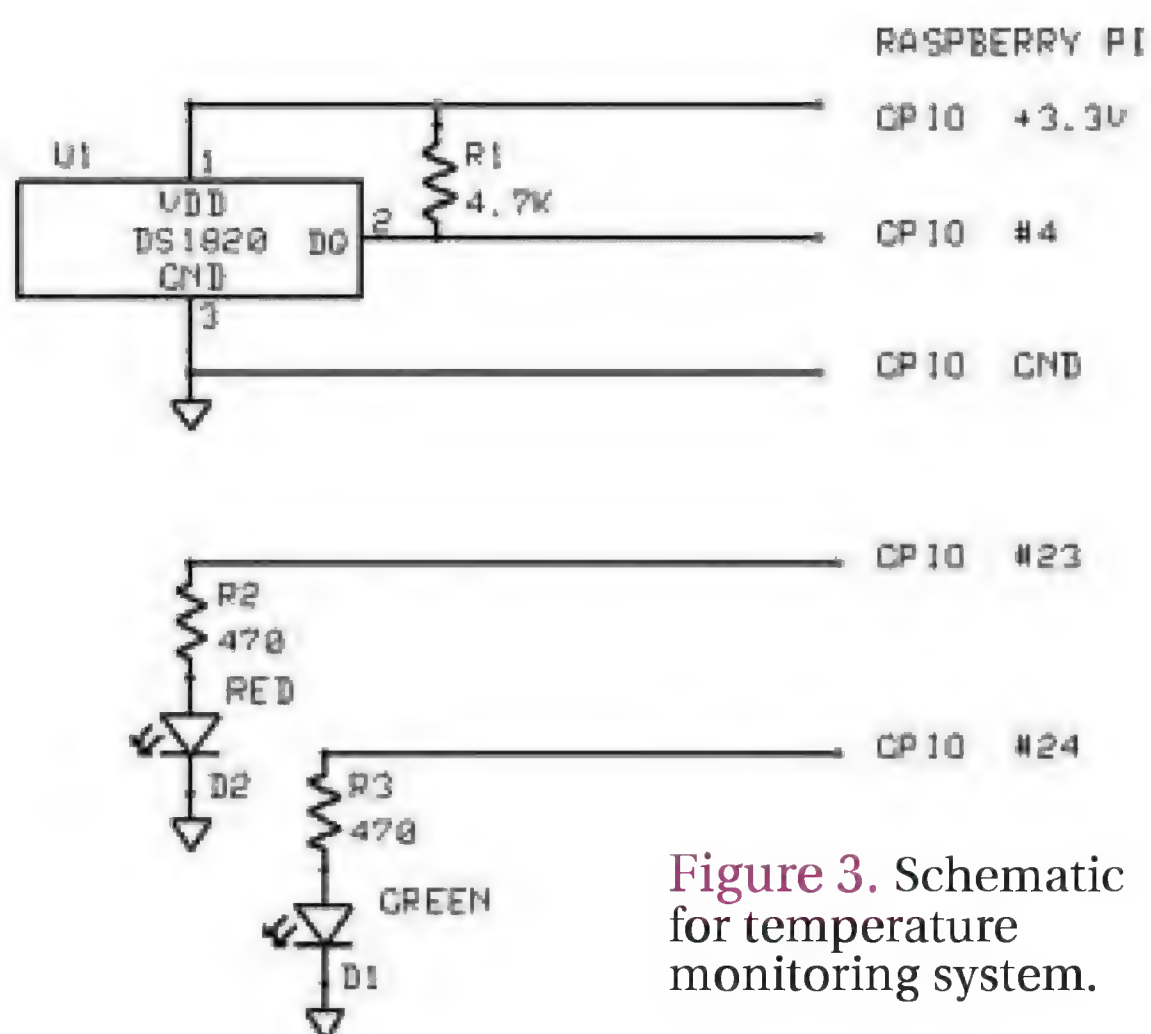
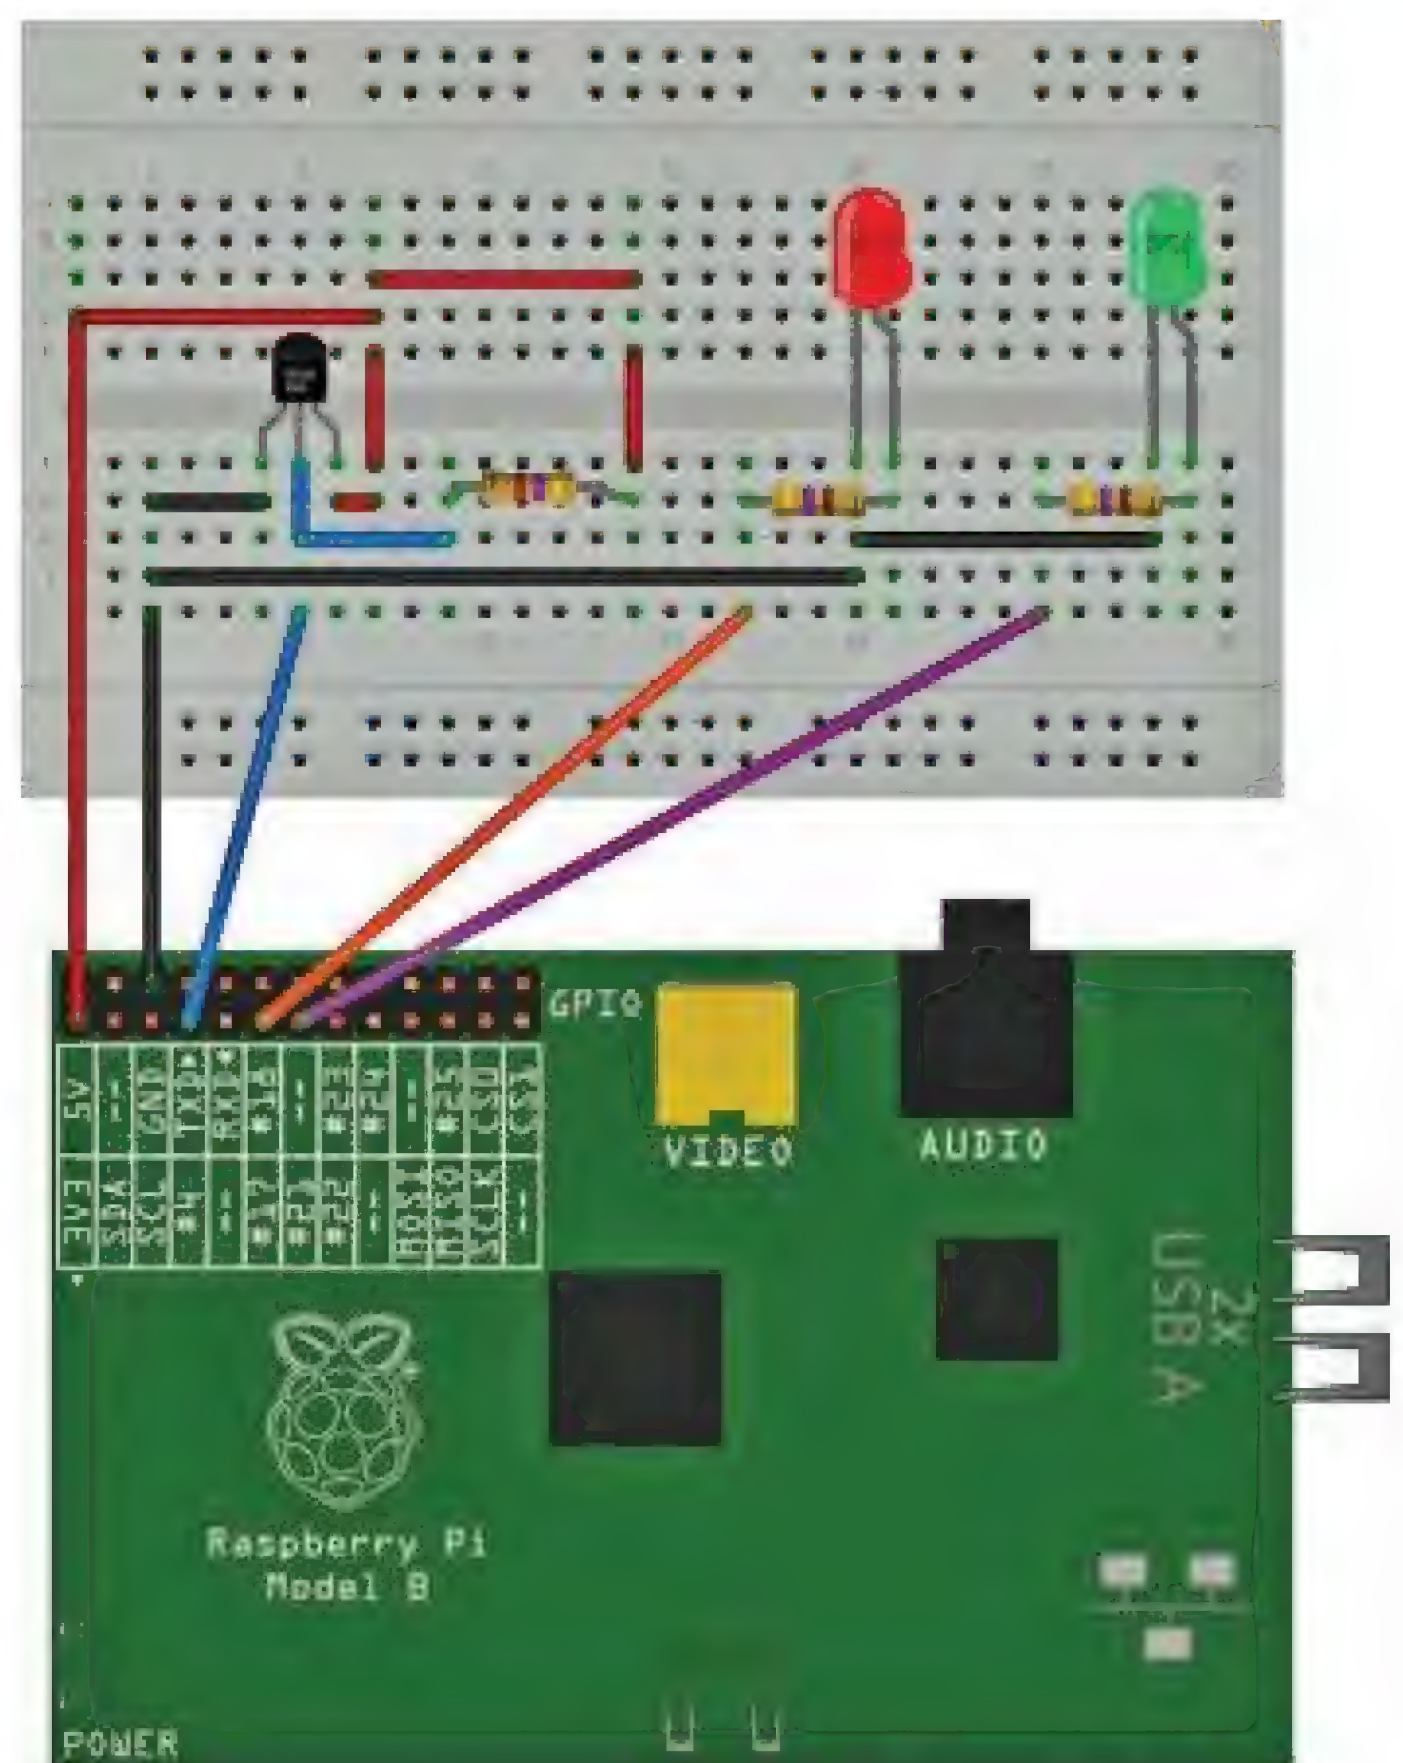

Figure 3. Schematic for temperature monitoring system.
Figure 4. Prototype temperature monitoring system.
input. I developed the voltage doubler shown in **Figure 3** that just about meets the LED light voltage requirements. It uses an LM555 as a standard square wave generator that drives a standard push-pull power N-channel/P-channel MOSFET pair operating as a common source. I used a resistor/diode/capacitor network in series with the gates to prevent the two MOSFETs from being turned on simultaneously during the transition in the square wave
■ **FIGURE 3.** The schematic of a voltage doubler that can supply 150 mA with 87% efficiency and a 1.5 volt drop from ideal.
The GPIO header on the Pi has 26 pins; using software running on the Raspberry Pi, we can control and access these GPIO pins. The prototype schematic for the temperature monitoring system and its connection to the GPIO is shown in **Figure 3**. Red and green LEDs are used to indicate temperature status; red indicating an alert. In addition to this, a Fritzing drawing is included in **Figure 4**. (Smiley's Workshop has been covering the use of Fritzing extensively lately.)
The first script is the most basic way for the Pi to get our attention: illuminating an LED. Connect high efficiency LEDs as shown in **Figure 3**. GPIO pins on the Pi can be confusing, depending on your hardware version. Regardless of what Pi model you have, connect LED anodes to physical pins 11 and 13 using a series 470 ohm resistor for each LED; connect the cathodes to ground. For the Model A, these will be GPIO 17 and GPIO 21; for the Model B, these will be GPIO 17 and either GPIO 21 or GPIO 27 — please make sure your code reflects this or the green LED won't work.
First, we have a little detective work to do. Connect your DS18B20 as shown in **Figure 3** (make sure you get 3.3V and ground correct!). To determine the serial number for the part, we need to run some shell commands. Linux has a really intuitive way of handling hardware: Everything is a file! First, we need to kick-start the Linux kernel to include some additional capabilities to interface with our hardware. Enter the following commands in the console: